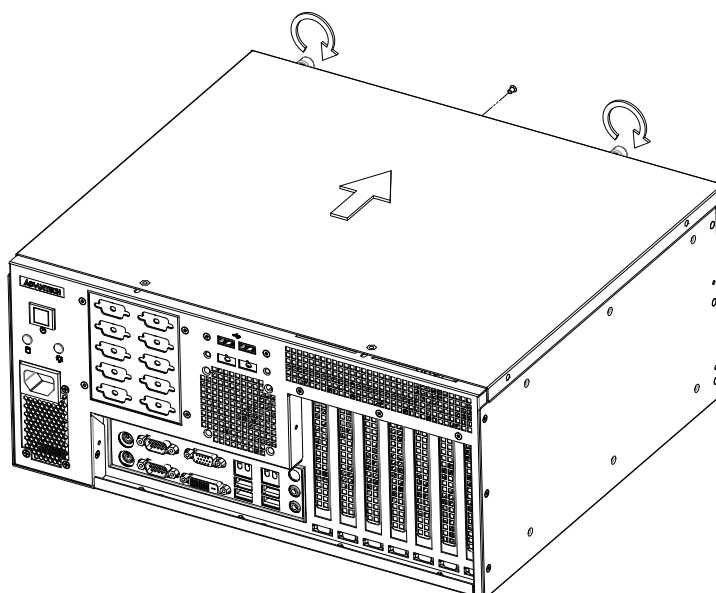

Figure 2.1 Removing the top cover/ 移除顶盖 / 移除上蓋
- Figure 2.1 Removing the top cover/ 移除顶盖 / 移除上蓋 6